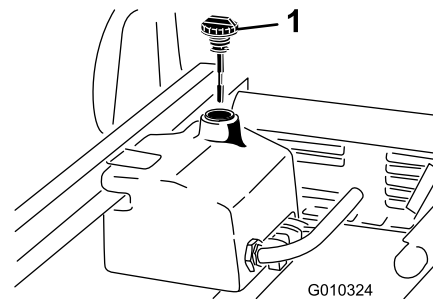

Figure 73
4. Clean the area around the filler neck and the cap of the hydraulic tank (Figure 73).
6. Remove the dipstick (Figure 73) from the filler neck and wipe it with a clean rag.